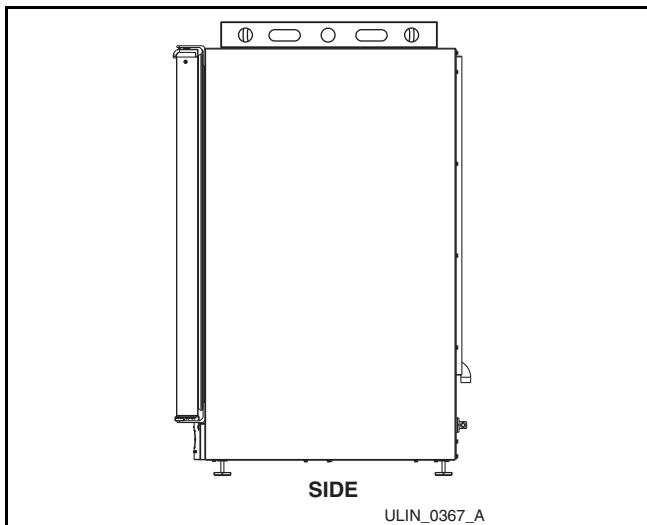
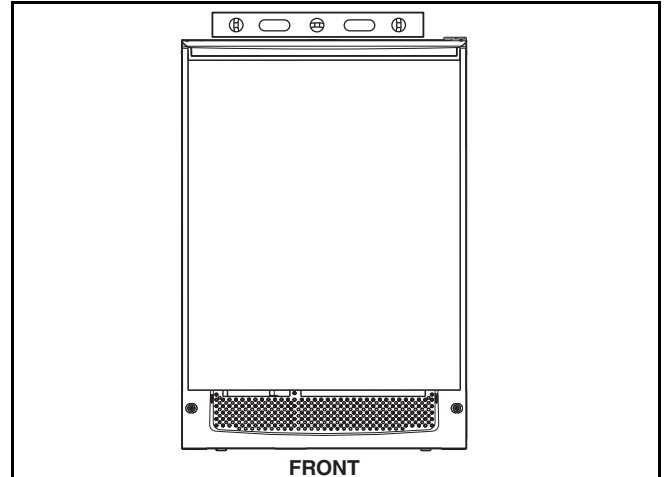

Figure 33
Figure 34
1. Use a level to check the unit from front to back (Figure 33) and from side to side (Figure 34).